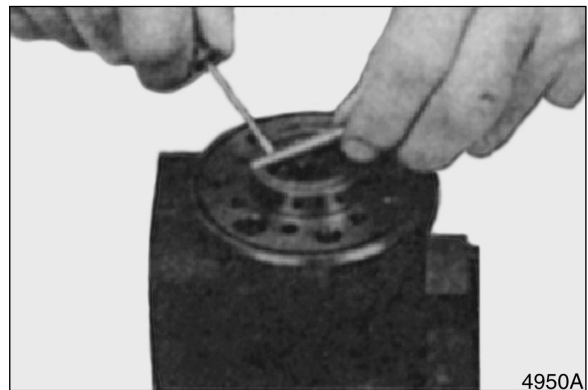

Figure 20
12. Remove cross pin. See Figure 20.